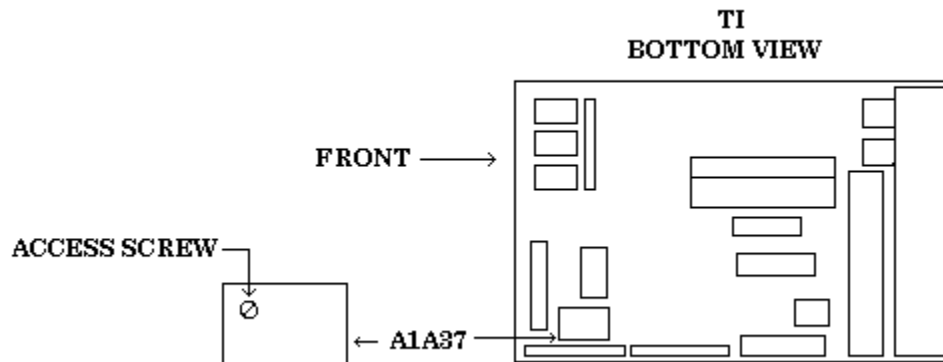

Figure 1. Cal out frequency adjustment.
- (1) Disconnect equipment setup.
- (2) Press and release TI spectrum analyzer **POWER** key to **OFF**.
- (3) Disconnect TI power cord.
- (4) Set TI spectrum analyzer on its front panel.
- (5) Loosen four screws through the back rubber feet.
- (6) Pull cover up and off.
- (7) Place TI on its top and reconnect power cord.
- (8) Connect TI **CAL OUT** to frequency counter input **C**.
- (9) Depress TI spectrum analyzer **POWER** key to **ON**.
- (10) Remove the access screw from A1A37 (fig. 1) and adjust oscillator for a 100,000,000 Hz indication on frequency counter.
- (11) Disconnect TI **CAL OUT** from frequency counter input **C**.
- (12) Press and release TI spectrum analyzer **POWER** key to **OFF**.
- (13) Disconnect power cord.
- (14) Reinstall access screw on A1A37 (fig. 1) module.
- (15) Set TI spectrum analyzer on its front panel.
- (16) Replace TI outer cover.
- (17) Tighten four screws through back rubber feet.
- (18) Place TI in its normal orientation and reconnect power cord.
- (19) Depress TI spectrum analyzer **POWER** key to **ON**.